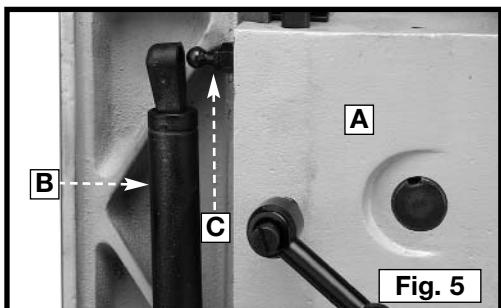
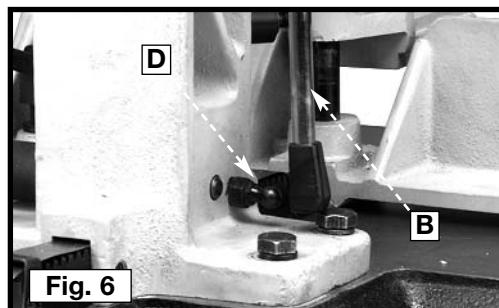

Fig. 5
Fig. 6
Make sure that the head (A) Fig. 5 is held in the "up" position. Attach the hydraulic cylinder (B) to the two fittings, one located on the back of the head (C) Fig. 5, and the other on the column (D) Fig. 6. Push each end of the hydraulic cylinder on its fitting to secure the cylinder.